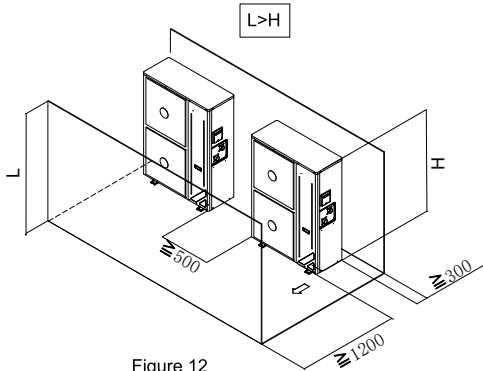

Figure 12
- Group installation (two or more units) (see Figure 12)